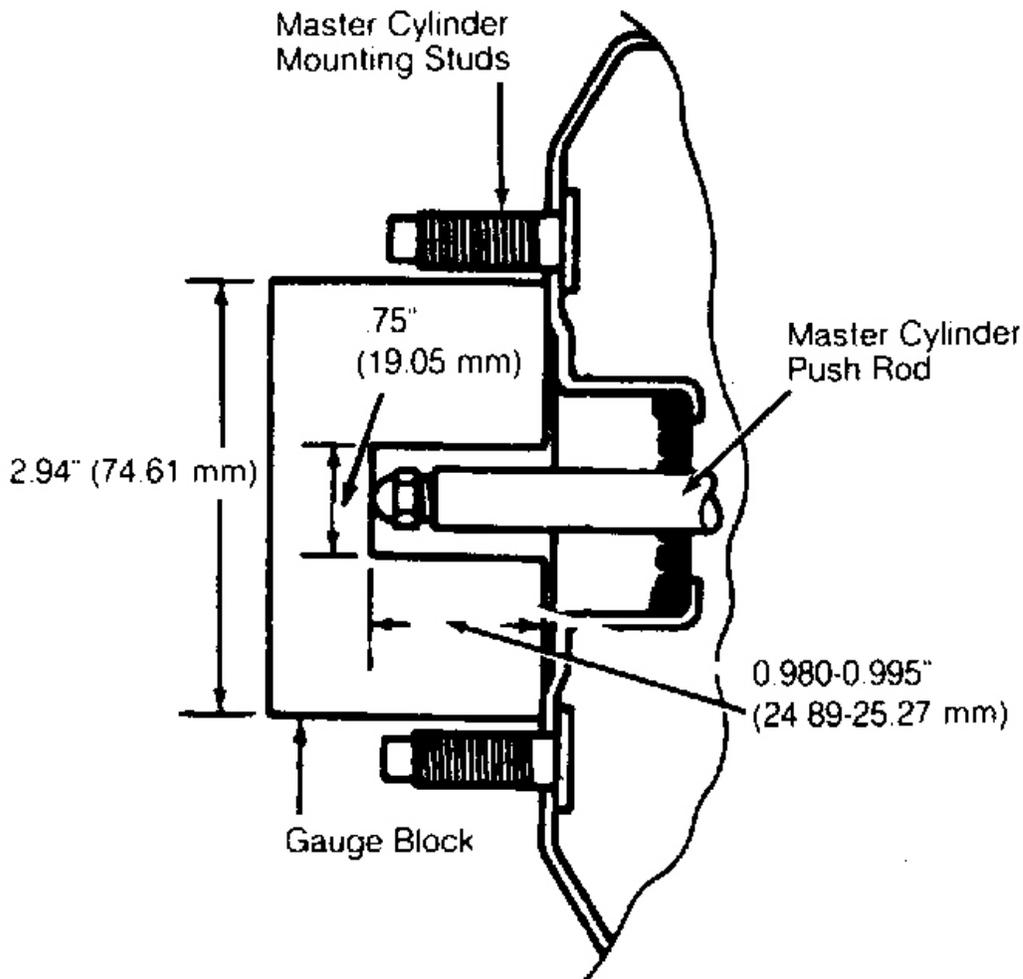

Fig. 1: Adjusting Brake Booster Push Rod (Navajo)
1. Remove master cylinder to gain access to push rod. To check screw adjustment, fabricate a gauge. See **Fig. 1**.